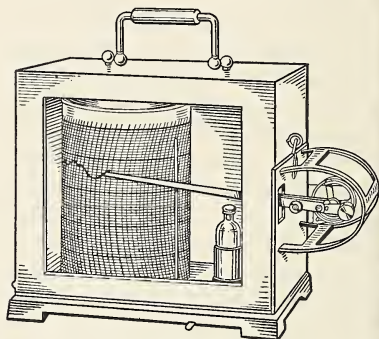

FIG. 303. A thermograph, or self-recording thermometer.
5. *Self-registering instruments.* The thermometer of Fig. 303 is a metal type which carries an ink pointer to record the temperature on a graph, which consists of a sheet of ruled paper